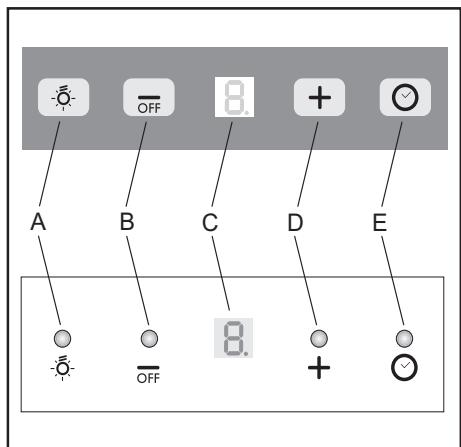

Fig.18
COMMANDES: (Fig.18)
• **Saturation filtres anti-gras/charbon actif: Fig.18**